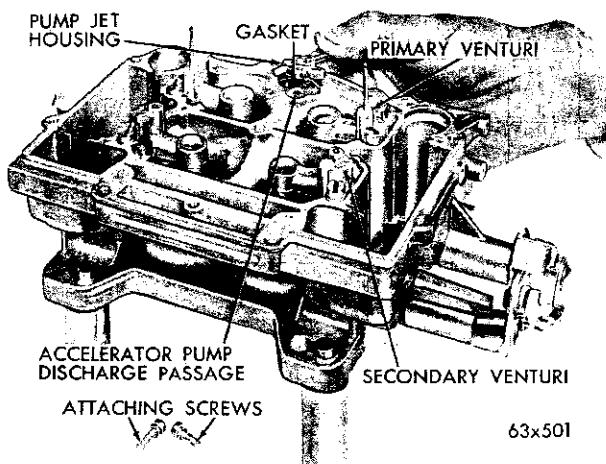

Fig. 39—Removing or Installing the Accelerator Pump Jet Housing
(1) Remove the screws that attach the accelerator pump jet housing to the main body. Lift out the jet housing and gasket, as shown in Figure 39. Discard the gasket. Invert the main body and drop out the discharge check needle from the discharge passage.